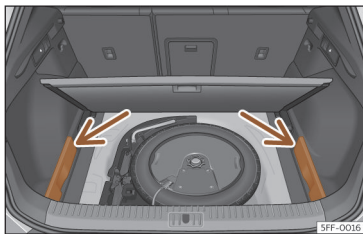

Fig. 187 In the boot: covers for storing the rear shelf.
- Remove the left and right covers >>> **Fig. 187**.